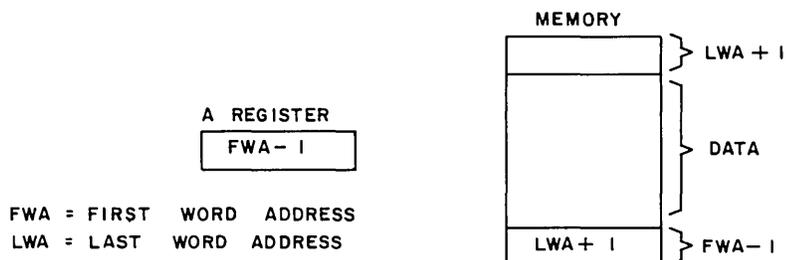

Figure 3. Address Arrangement for Buffered Input and Output
**Buffered Output:** A buffered output is initiated when the computer executes an Output from A instruction and the W field of Q selects a buffered output. (See Figure 3.) Q is stored in the 1716, then placed on the 1716 channel, and the contents of A is transferred to the 1716. The contents of A specifies the first word address minus one (FWA-1) of the block to be transferred. The contents of location FWA-1 specifies the last word address plus one (LWA+1) of the block to be transferred. The 1716 begins the data transfer by raising the Write signal to the device. The device responds within four microseconds by raising the Reply signal to the 1716. The 1716 then advances to the next data word, repeating this cycle until the block of data has been transferred.
**Buffered Input:** A buffered input is initiated when the computer executes an Output from A instruction and the W field of Q selects a buffered input. (See Figure 3.) Q is stored in the 1716, then placed on the 1716 channel and the contents of A is transferred to the 1716. The contents of A specifies the location of the first word address minus one (FWA-1) of the block where the data is to be stored. The contents of the location FWA-1 specifies the last word address plus one (LWA+1) of this block. The 1716 begins the data transfer by raising the Read signal to the device. The device responds within four microseconds by raising the Reply signal to the 1716. The 1716 then advances to the next data word and repeats this cycle until the block of data has been transferred.